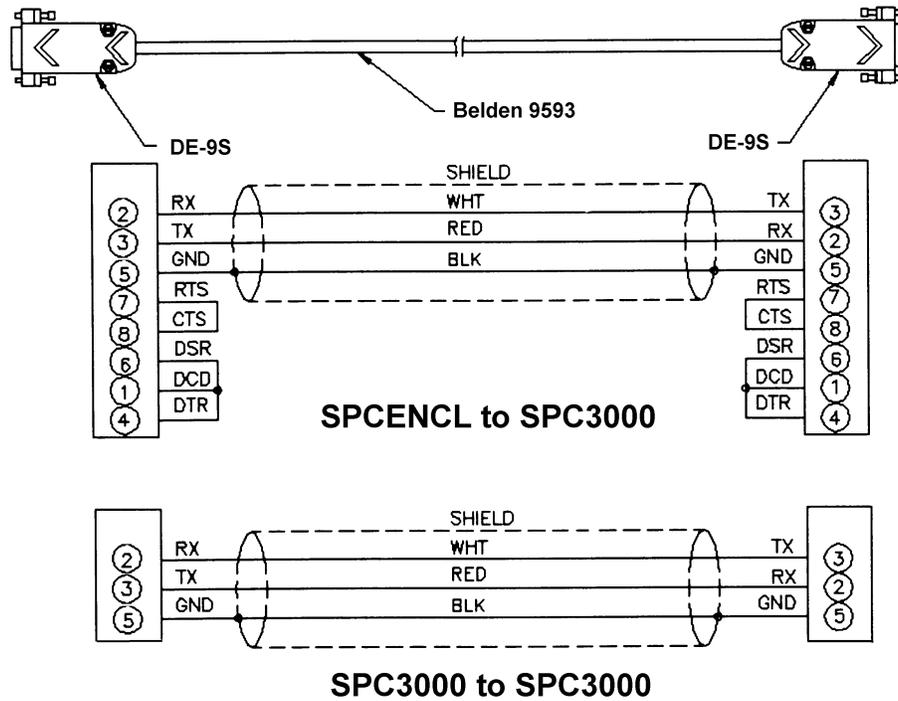

Figure 5 - RS232C Wiring
Each SPCENCL3200 has two Serial connections. The Serial connections are only used for communication with a SPC3000 Calibrator or another Auxiliary Serial Device. COM1 connects to Callibrator number one (1). The serial connection to other SPC3000 modules in the SPCENCL3200 are "daisy chained from one calibrator to the next. Each calibrator has a unique address. The connections conform to the RS232C standard. The connector wiring is shown in Figure 5 below.